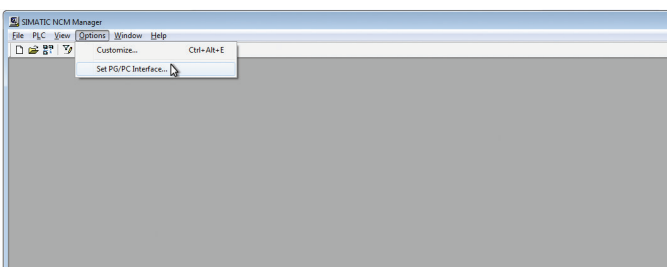

Fig. 18: Set PG/PC Interface (source: Siemens)
1. Select “Options” → “Set PG/PC Interface” (Fig. 18):